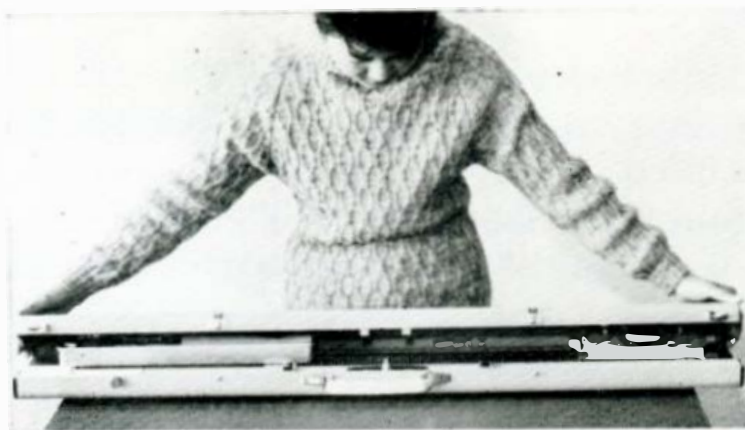

Fig. 4
- c. Lift the upper case about 1" and pull toward you. (See Fig.4)